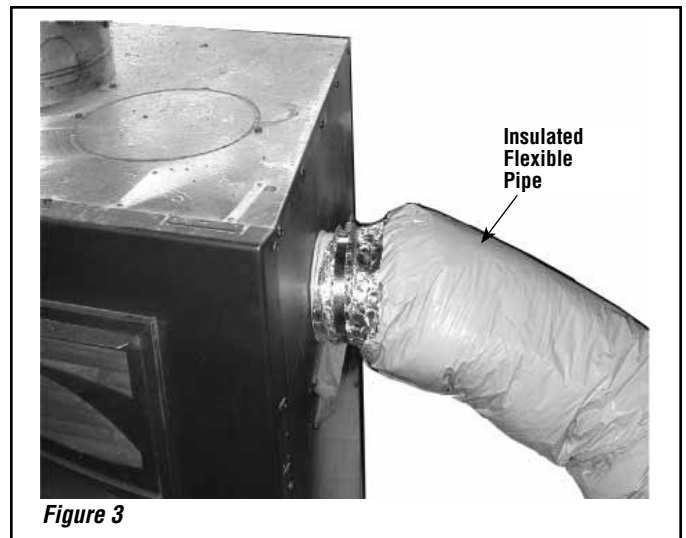

Figure 3
- Step 4.** Using a tightening collar, install the flexible pipe to the adaptor (*Figure 3*). **CAUTION: Make sure the plastic casing of the flexible pipe does not touch the fireplace.**